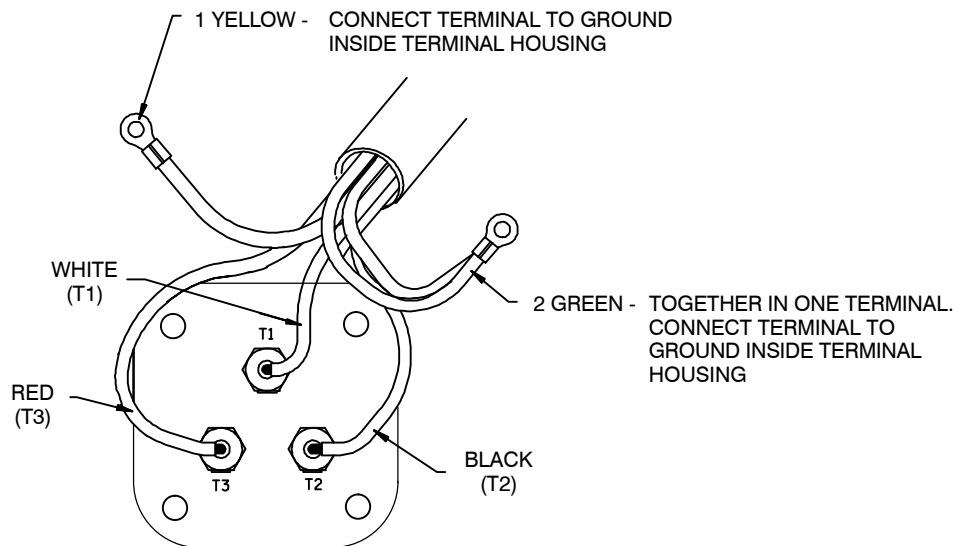

Figure 5. Terminal Housing Wiring Connections
Slide a length of heat-shrink tubing (14) up over each of the power cable leads. Install the leads on the terminal posts as shown in Figure 5 and secure them using the hex nuts (6). Slide the tubing down each lead until the terminals are covered and the tubing contacts the terminal plate. The tubing **must** extend up the leads far enough to ensure a good seal.